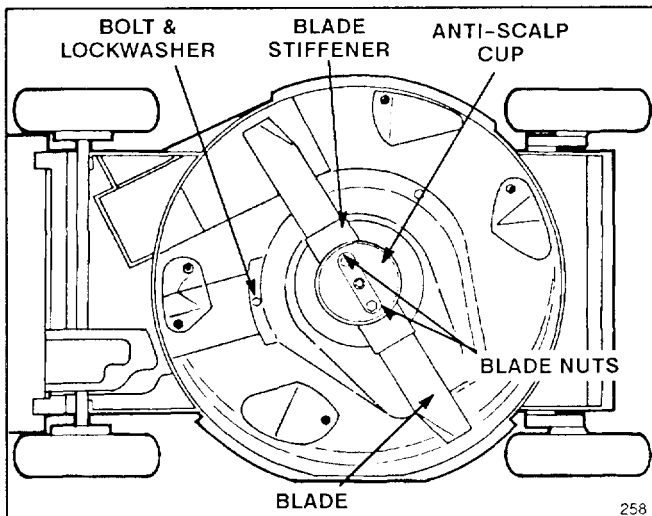

Figure 24
4. Remove (2) blade nuts, anti-scalp cup, blade stiffener, blade, blade spacer, and (3) bolts and washers securing BBC shield to mower deck (Fig. 24).
6. Reinstall BBC shield with (3) bolts and washers, blade spacer, blade, blade stiffener, anti-scalp cup, and (2) blade nuts.